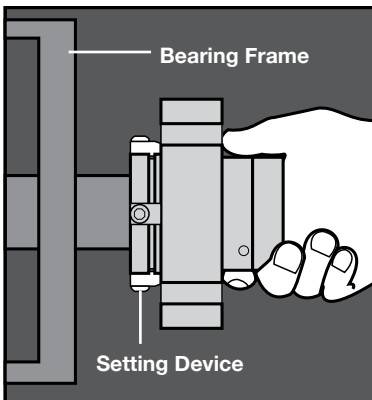

Figure 2
- 2.3 **Slide the Uniseal cartridge** onto the shaft or pump sleeve with the setting devices toward the bearing housing. See Figure 2.